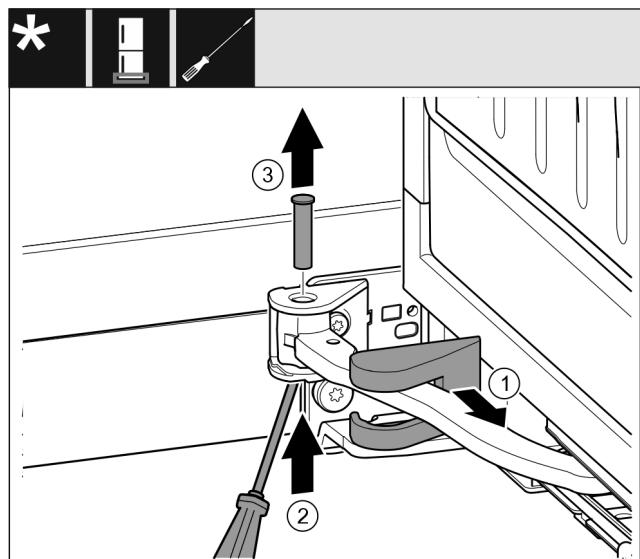

Fig. 13
- ▶ Remove the bearing bracket cover and push it along the hinge. Fig. 13 (1)
- ▶ Lift the bolt with a finger or screwdriver from below. Fig. 13 (2)
- ▶ Insert the screwdriver under the bolt head and remove it. Fig. 13 (3)